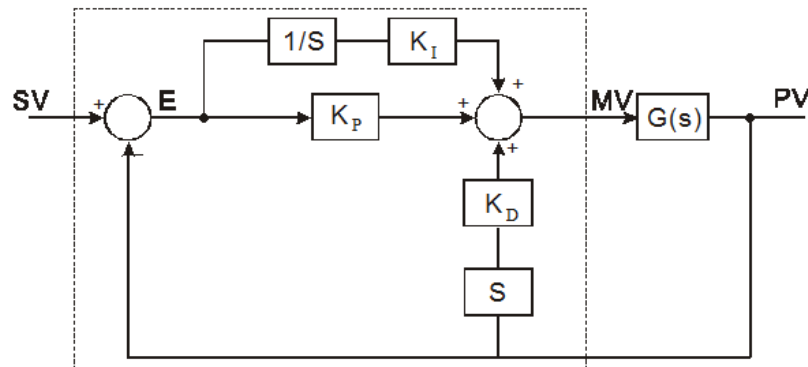

Figure 1 Control diagram for control mode 0/1/2/5 (S_3+4 is K0/K1/K2/K5.)
- Control diagram: In Figure 1, S is a derivative operation, referring to “(PV - previous PV) ÷ sampling time”. 1/S is an integral operation, referring to “previous integral value + (error value × sampling time)”. G(S) refers to the device being controlled.